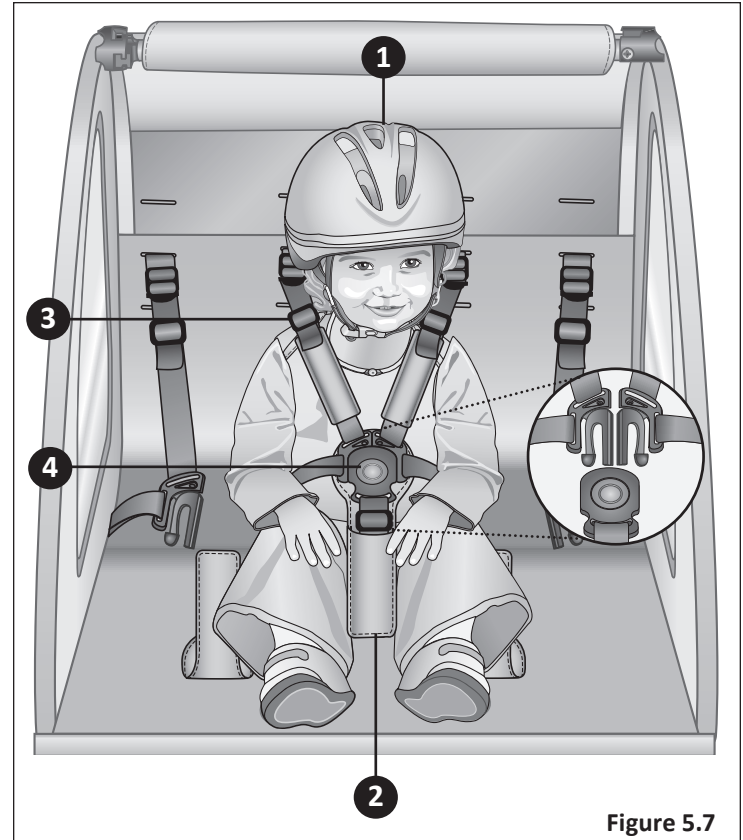

Figure 5.7
- ❹ Bring the waist straps across the child's hips, and fasten the clips into the lap buckle. Tighten as needed. **Figure 5.7**